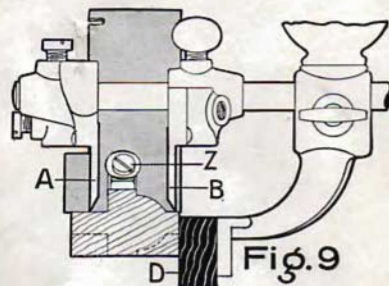

Fig. 9
Fig. 9—SASH PLANE—The Sash Cutter is similar to the tool used for cutting the tongue on matched boards, as it has a Stop (Z) which can be adjusted to regulate the depth of the cut. One side of the moulding is cut first, the work is then reversed and the operation repeated on the other side. Fence (D) is used as in Matching. Spurs not used.